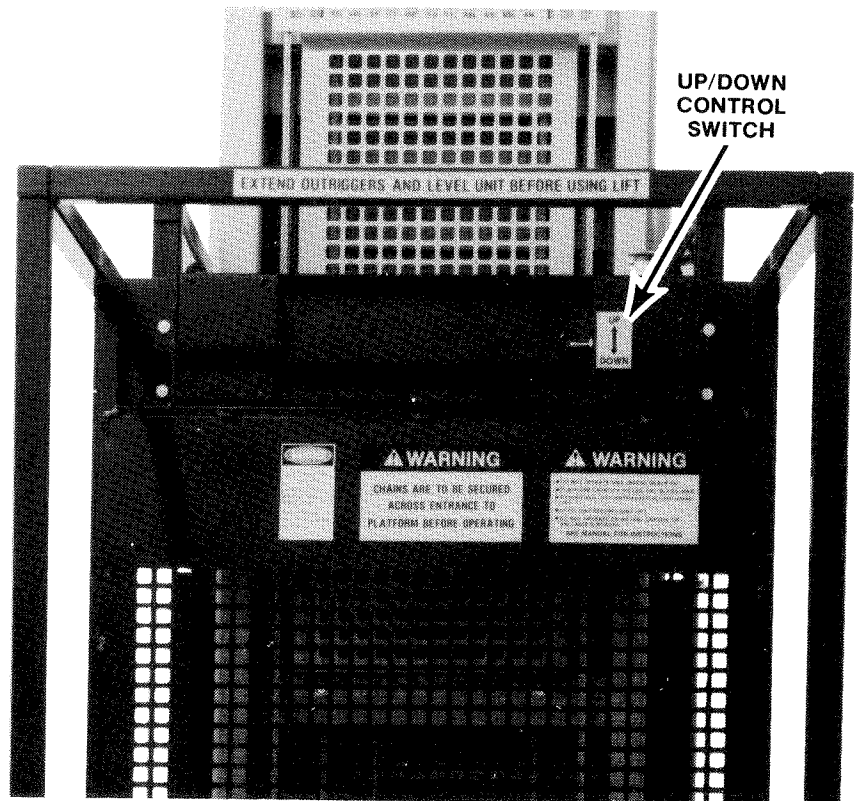

Figure 6. Control Switch Location
3. **To Raise Platform** — Activate up/down toggle switch to UP position. To stop platform, release switch. (Fig. 6)
4. **To Lower Platform** — Activate up/down toggle switch to DOWN position. To stop platform, release switch. (Fig. 6)